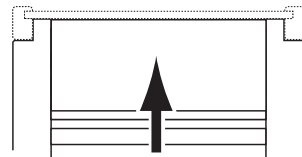

FIG. 3.5
6. Fit upper Tower notches snug and level between bottom side of top shelf (Fig.3.5)